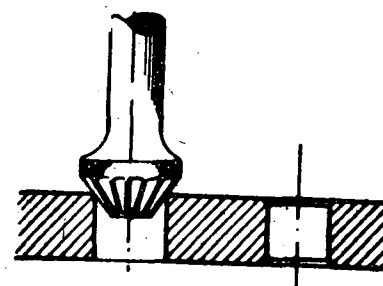

Fig. 2
1) In rivets with flat or snap head, the borders of the holes should be lightly countersunk (Fig. 2). This slight countersink makes the edge not so sharp.